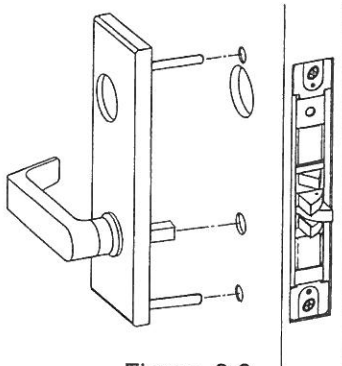

Figure 6-3
3. Install outside trim with mounting posts through door and position spindle into hub of lock case. (See Figure 6-3.)